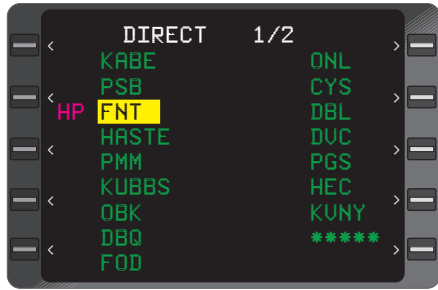

Figure 3-115
1. **→** Key - DEPRESS to display Direct To Page with cursor over current **HP** Waypoint. (Figure 3-115)